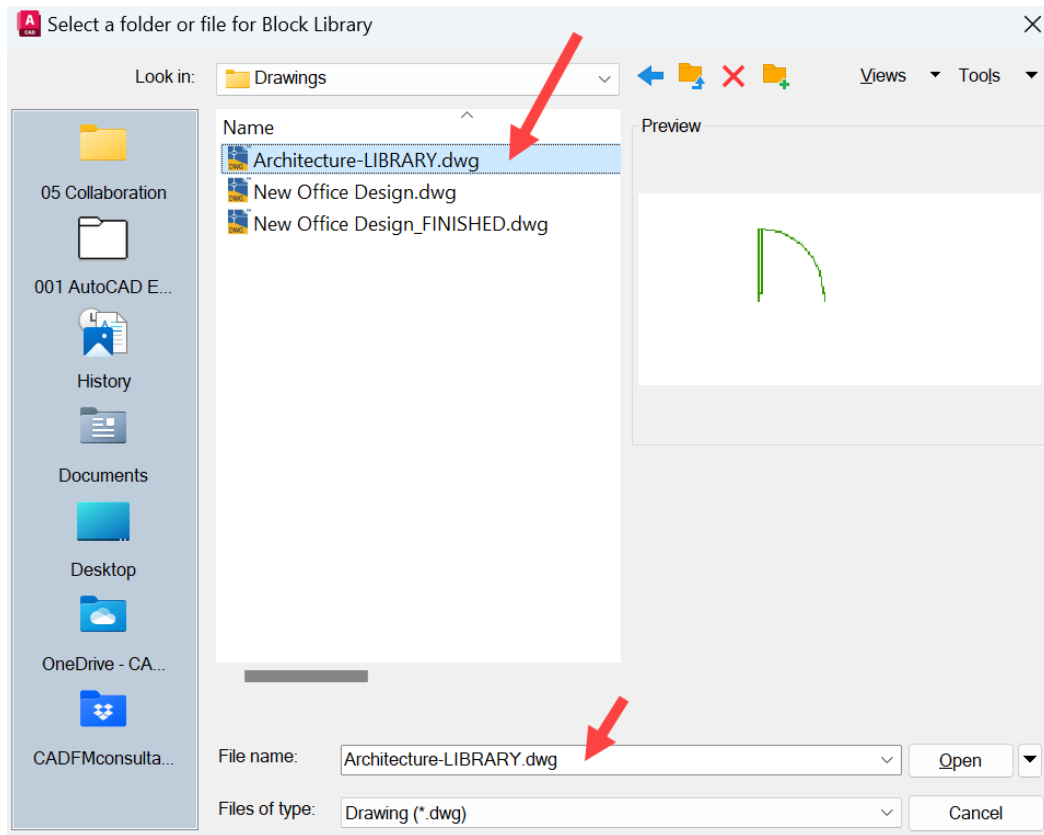

Figure 9.22: The dialog box used to locate the block library drawing
5. You will now see a new dialog box appear, prompting you to select a folder or file for the new block library, as shown in *Figure 9.22*. Navigate to the location where you have saved your **Architecture-LIBRARY.dwg** file. You may have saved it with a slightly different filename, but you must still locate the file.
6. Select the block library drawing, as shown in *Figure 9.22*, and click on **Open**.